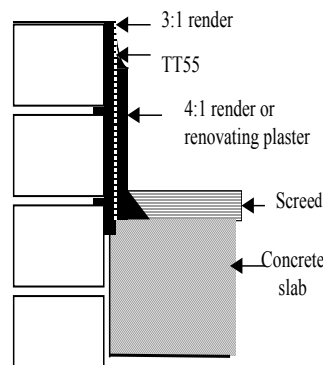

FIG. 1
- Situations where the **Triton FILLET SEAL** will be employed should already have been prepared in accordance with the slurry coating or render specification. In the majority of instances the **Triton FILLET SEAL** will be applied onto the slurry coated surface as illustrated in FIG.1 below.